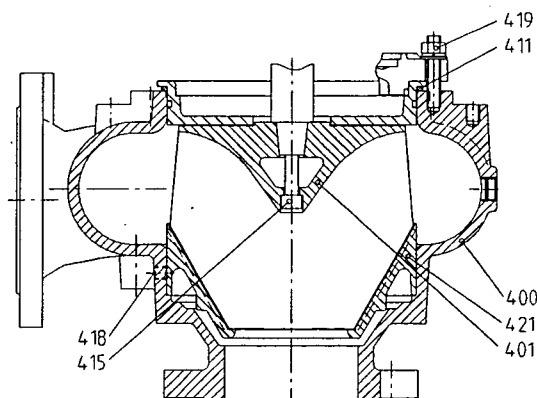

Fig. 5: D03K / D04K
These pumps have a non-adjustable liner (421) held in a fixed position inside a one-piece volute casing. It can be pressed out of the casing after loosening of fastening set (418) (Fig. 5).
a) For D03K / D04K (Fig. 5)